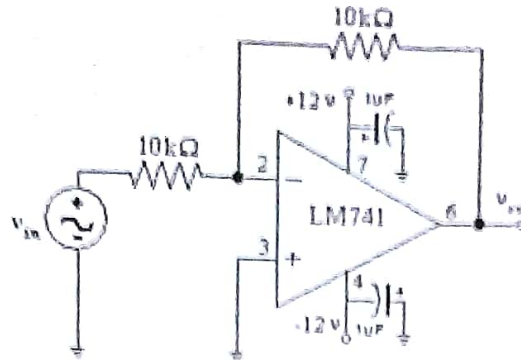

Fig.5: Inverting Amplifier
1. Construct the circuit shown in Figure 5. Connect a 500 Hz, 1 V_{pp} sine wave to the input and use the oscilloscope to observe the input and output signals.